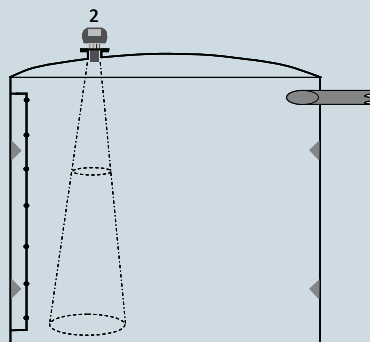

Figure 1.1
- For liquids, perpendicular to the material surface. This usually means aiming the transducer straight down. (Figure 1.1).